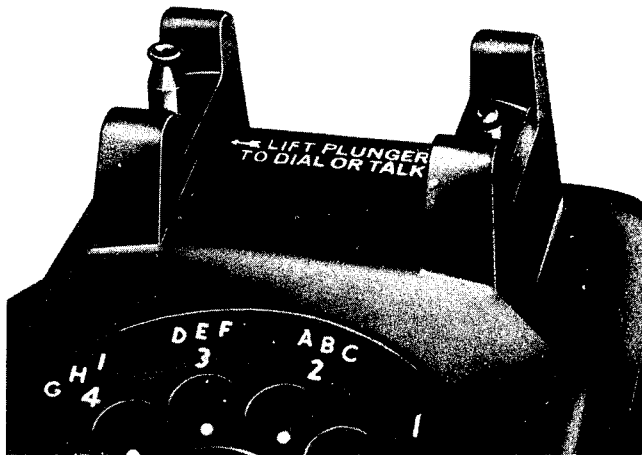

Fig. 7 — 500F or 501F Telephone Set, Plunger Switch
- Equipped with P-19A411 plunger switch (Fig. 7) to avoid interference with dialing or talking of another customer on a party line.